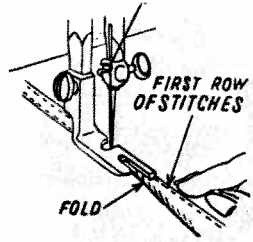

Fig. 34
4. Fold over the edges to the left and insert them into the scroll of the hemmer foot. Sew as you would do ordinary hemming. Use left edge of long toe of hemmer foot as guide, having original seam run alongside of it (Fig. 34).